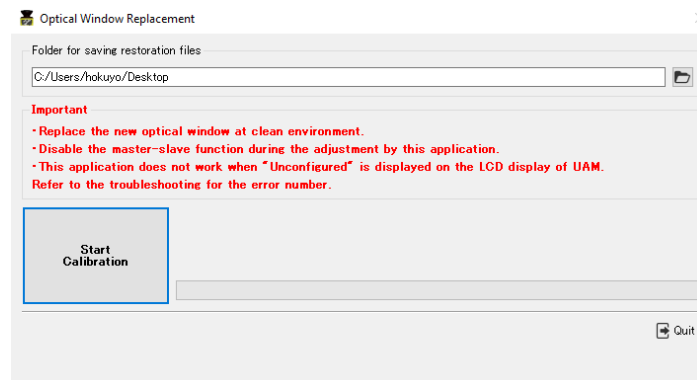

Figure 8-2 Adjustment
- a) Connect UAM with UAM Project Designer. Click the [Option] menu and select [Optical Window Replacement] in the list. Optical window replacement tool will be displayed in separate window as shown in Figure 8-2.